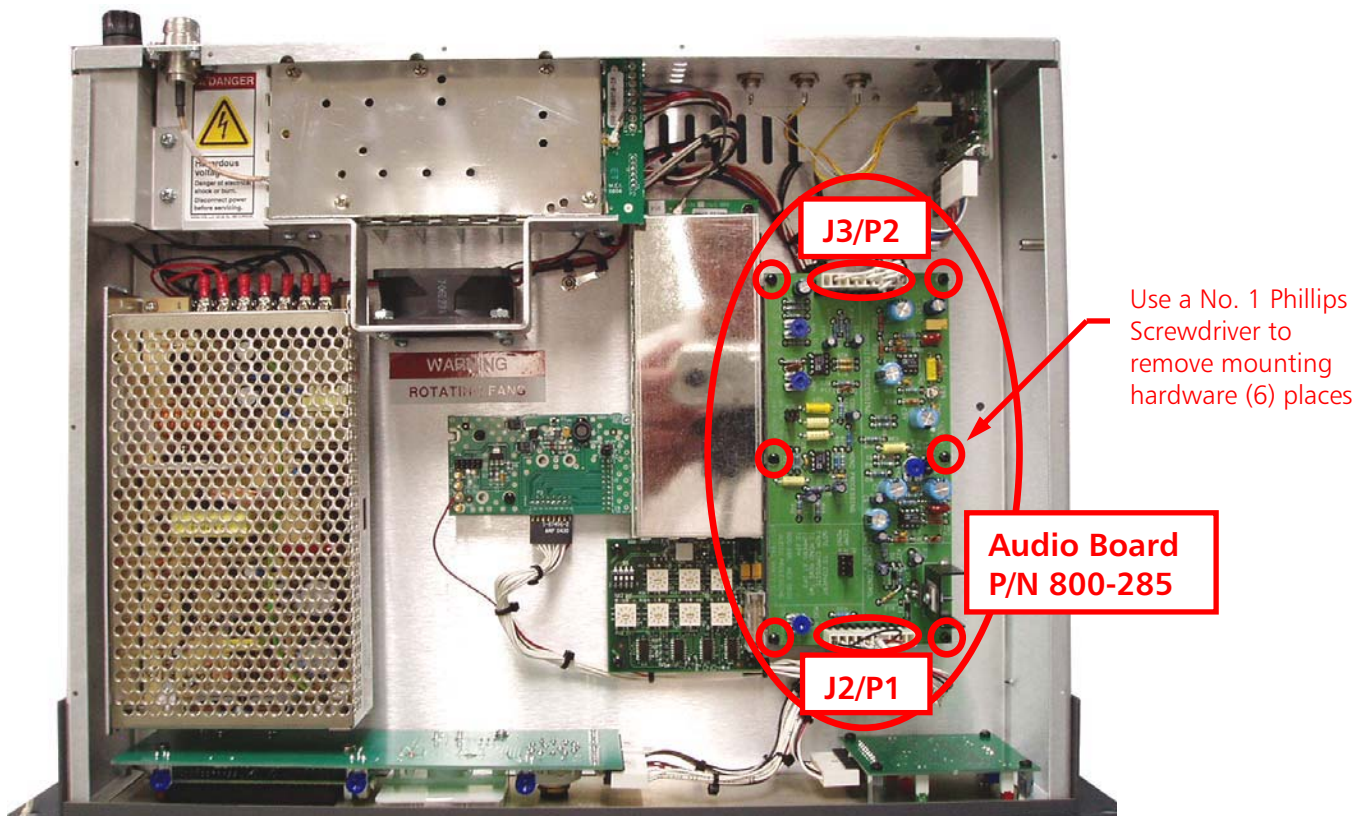

Figure 1 – Audio Board (P/N 800-285) Location
Step 13 – Install the Audio Board back into the unit ensuring that P1 and P2 are located as shown in **Figure 1**.